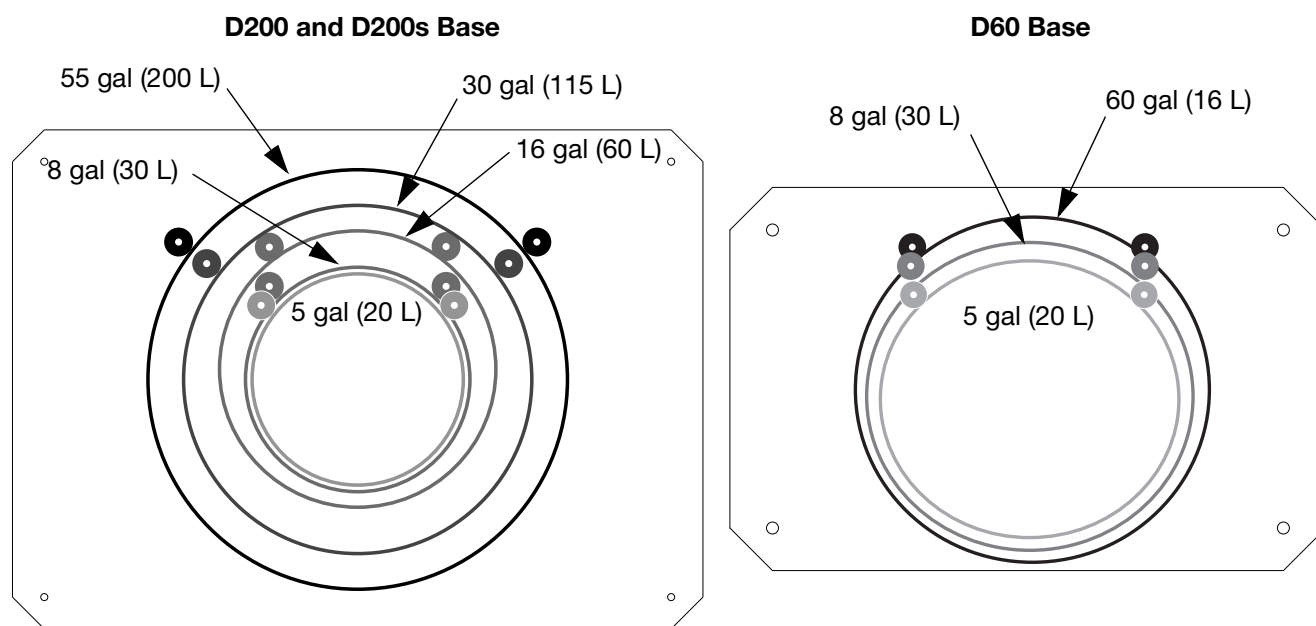

FIG. 19: Ram Base
1. Locate the correct set of mounting holes on the Ram Assembly base. See FIG. 19.